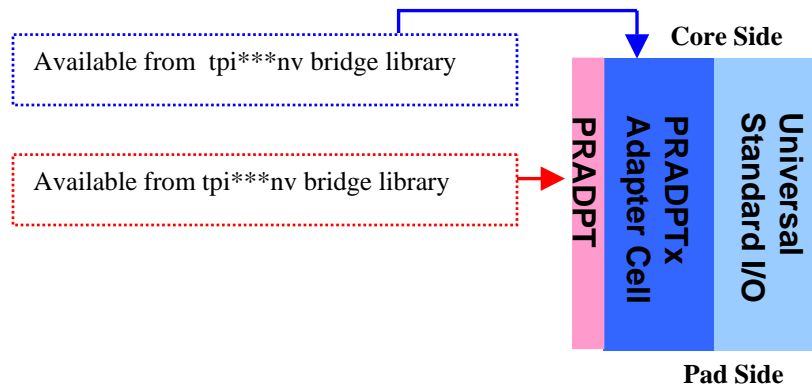

Figure 7.20 Place PRADPT Cell Next To The Other Side of PRADPTx Cell
Step 3: Place PRADPT universal adapter cell to the left side of PRADPT_x cell as illustrated in *Figure 7.20*.